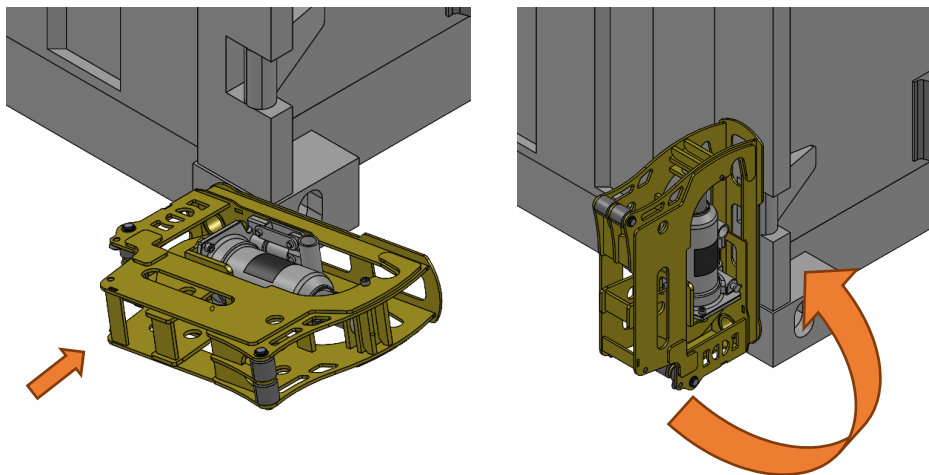

Figure 3 Mounting of climber unit.
2. Attach the climber unit to the corner casting by inserting it horizontally into the hole and then pivoting the unit to vertical (**Figure 3**)